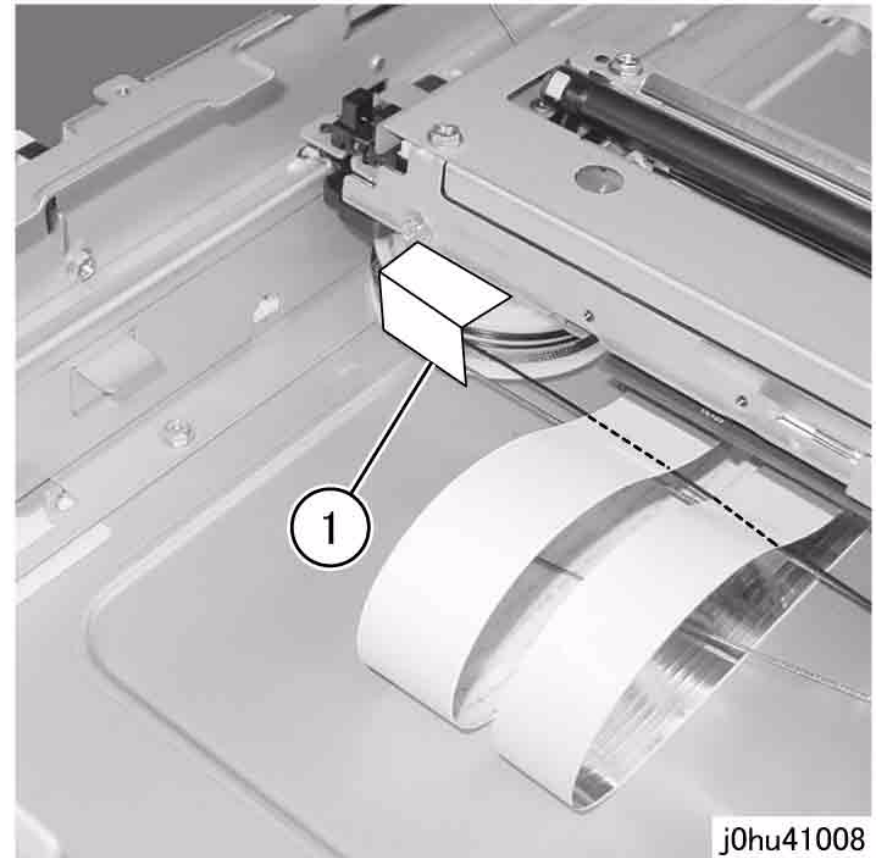

Figure 8 Secure Black Carriage Cable
10. Use tape to secure the Carriage Cable (black) that was disconnected in step 9 so that it does not get separated from the Cable Supply Drum (Figure 8).